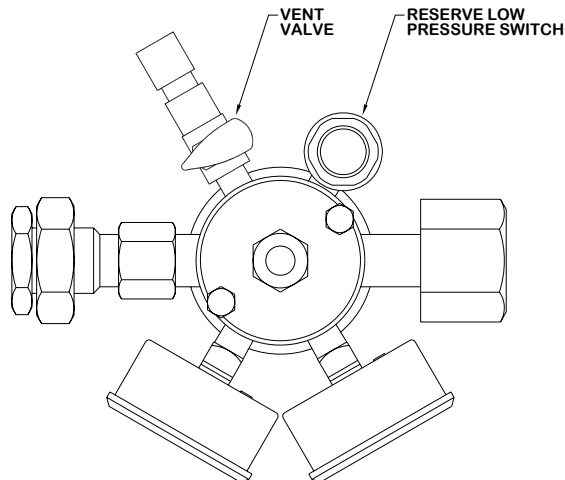

Fig. D-2 Reserve Header Regulator, Vent Valve and Reserve Low Pressure Switch
2. After pressurizing the header close the air cylinder valve and slightly open the vent valve located on the back of the regulator (Fig. D-2) and allow a small flow of air through the regulator and valve.
3. After pressurizing the piping, slightly open the vent valve located on the back of the regulator (Fig. D-2) and allow a small flow of air through the header.
2. Slightly open the vent valve located on the back of the regulator (Fig. D-2) and allow a small flow of air through the header.